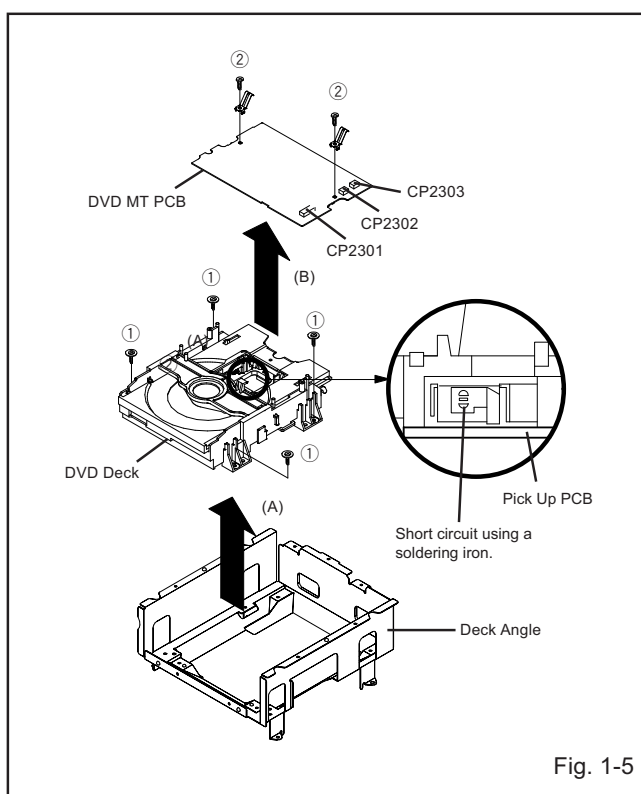

Fig. 1-5
### 1-5: DVD MT PCB/DVD DECK (Refer to Fig. 1-5)
1. Short circuit the position shown in **Fig. 1-5** using a soldering iron. If you remove the DVD Deck with no soldering, the Laser may be damaged.
2. Remove the 4 supports ①.
3. Remove the DVD Deck in the direction of arrow (A).
4. Remove the 2 screws ②.
5. Remove the DVD MT PCB in the direction of arrow (B).